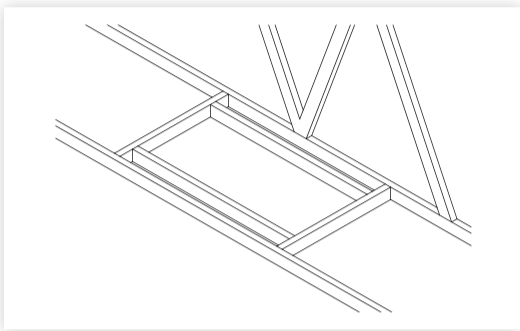

figure 1
1. Trim the opening in your ceiling to 1300mm x 600mm using minimum 90mm x 45mm framing timber. Refer Figure 1. **Ensure opening is square.**